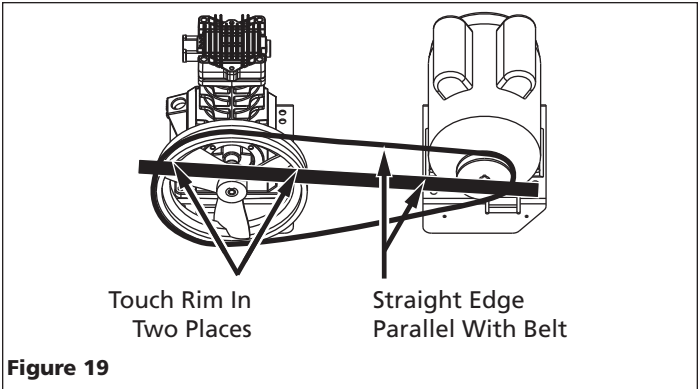

Figure 19
- e. To align belt, lay a straightedge against the face of the flywheel touching the rim at two places (See Figure 19).
- f. Adjust flywheel or motor pulley so that the belt runs parallel to the straightedge (See Figure 19).